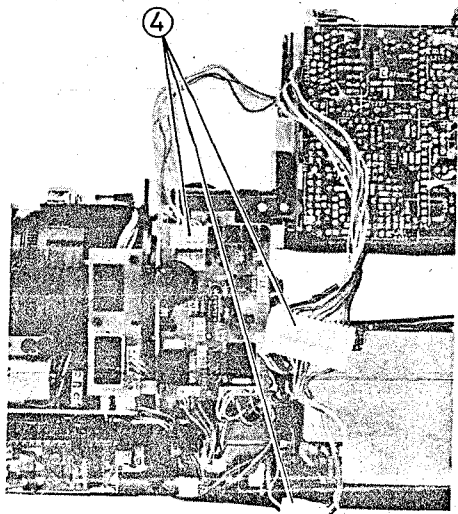

Fig. 2-45 Cassette Loading Mechanism Removal
(Figs. 2-45, 2-46, 2-47)
4. Disconnect three (3) connectors (CN1501, CN602, CN404). (See Fig. 2-45)
1. Disconnect three (3) connectors (CN501, CN602, CN404). (See Fig. 2-45)